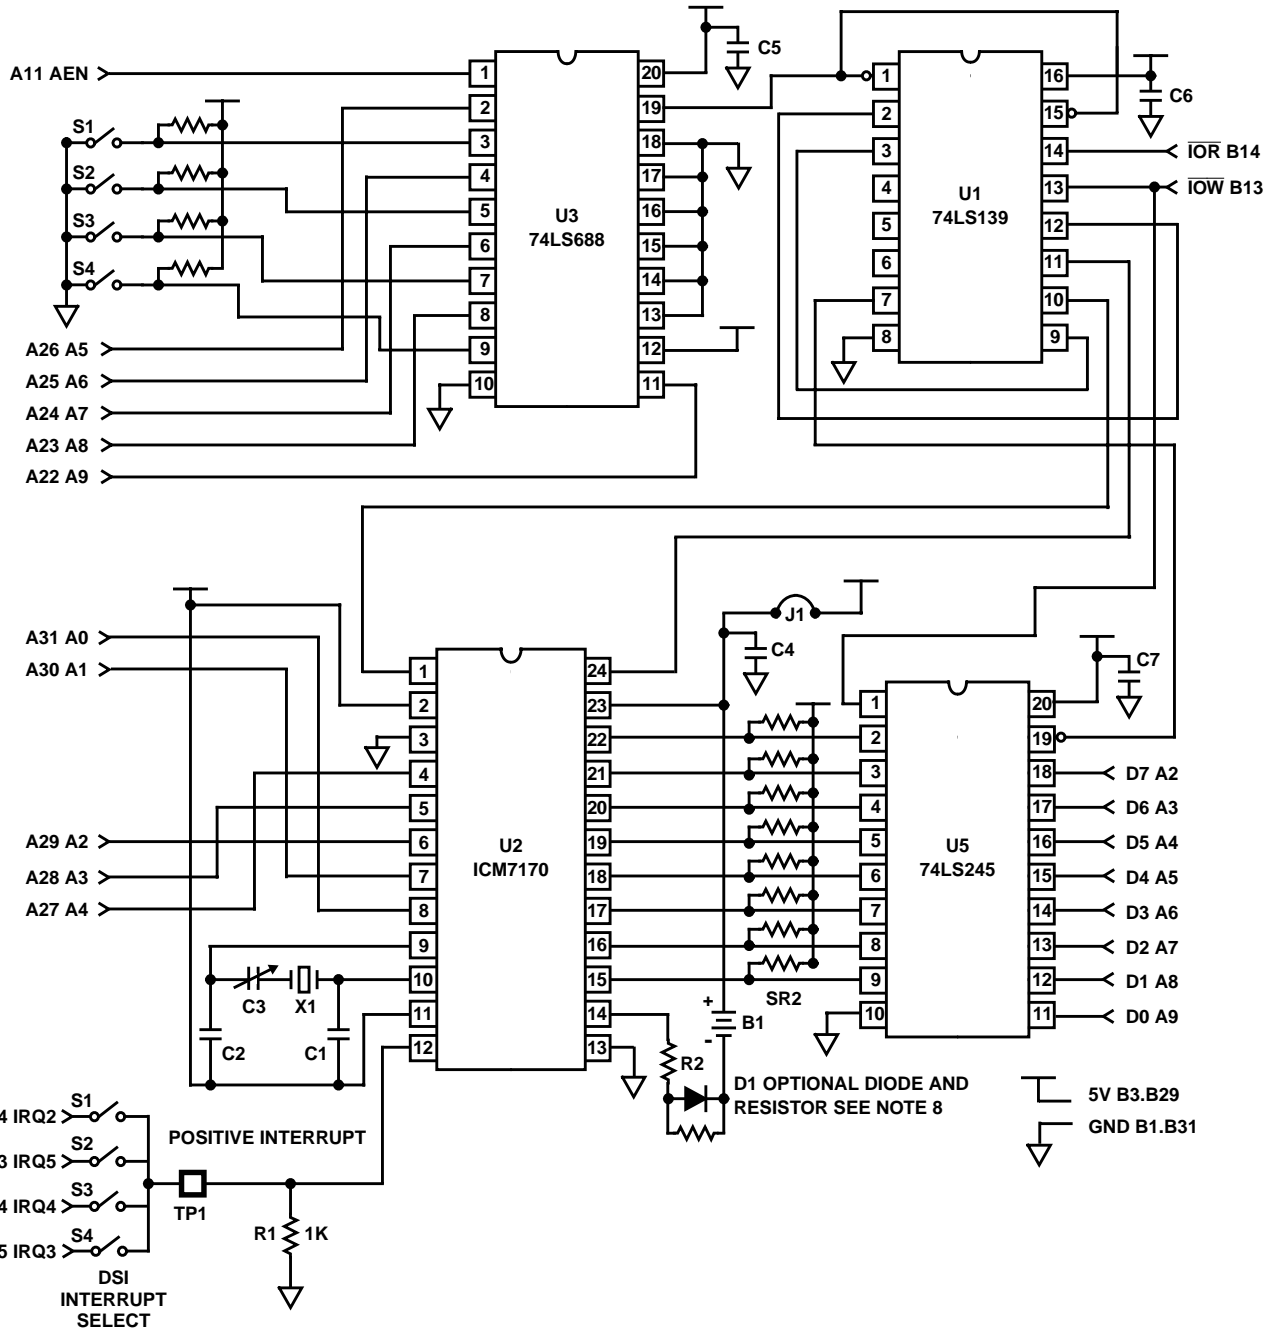

FIGURE 9. IBM PC INTERFACE FOR ICM7170Y
Figure 9 shows the schematic of a board that has been designed to plug into an IBM PC/XT (Note 1) or compatible computer. In this example  $\overline{CS}$  is permanently tied low and access to the chip is controlled by the  $\overline{RD}$  and  $\overline{WR}$  pins. These signals are generated by U1, which gates the IBM's  $\overline{IOR}$  and  $\overline{IOW}$  with a device select signal from U3, which is functioning as an I/O block address decoder. DS1 selects the interrupt priority.
8.  $V_{BACKUP}$  DIODE - Lithium batteries may explode if charged or if discharged at too high a rate. These conditions could occur if the battery was installed backwards or in the case of a gross component failure. A 1N914-type diode placed in series with the battery as shown in Figure 9 will prevent this from occurring. A resistor of  $2M\Omega$  or so should parallel the diode to keep the  $V_{BACKUP}$  terminal from drifting toward the  $V_{SS}$  terminal and shutting off ICM7170 I/O during normal operation.